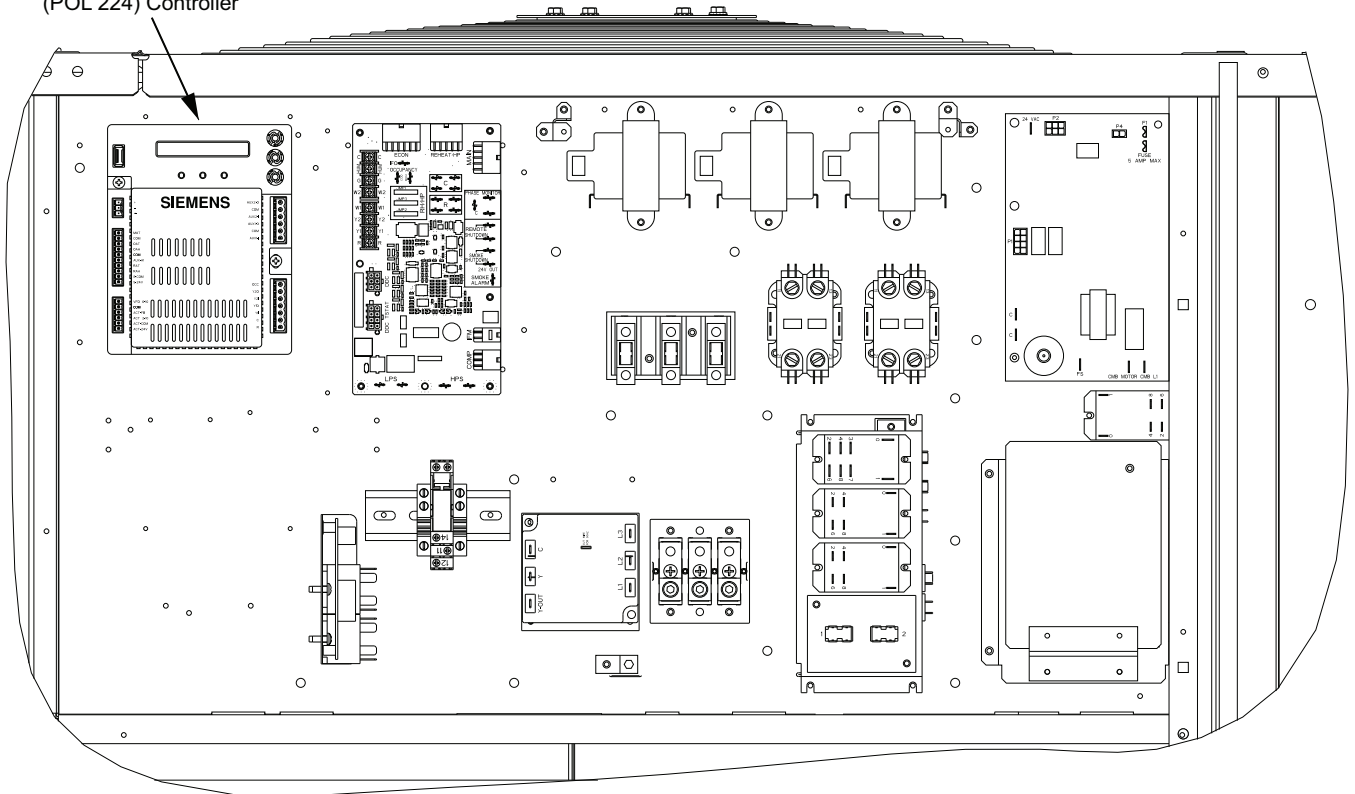

Fig. 15 — Mount Controller Assembly in Unit Control Box
27. In the hardware kit provided with the EconomizerONE is the POL 224 controller. Mount the controller assembly on the left side of the unit control box. Screw controller to the control box through pre-punched holes in control box. (See Fig.15.)